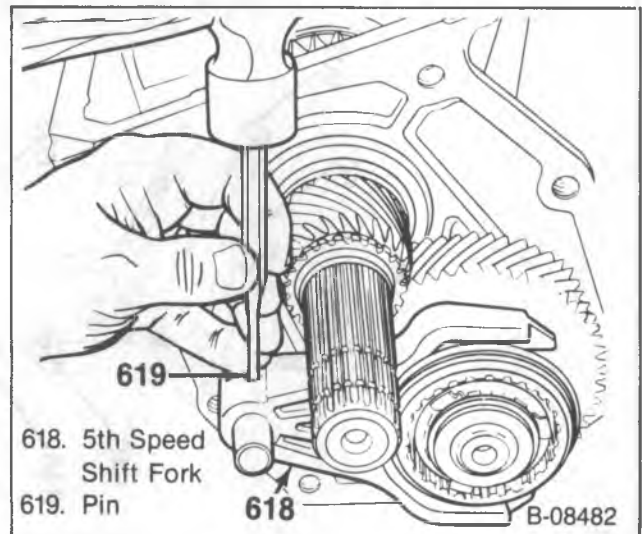

Figure 7—Removing the 5th Speed Shift Fork Pin
7. 5th speed drive gear (632).
- Support the 5th speed shift fork (618) and drive the pin out, (figure 7).